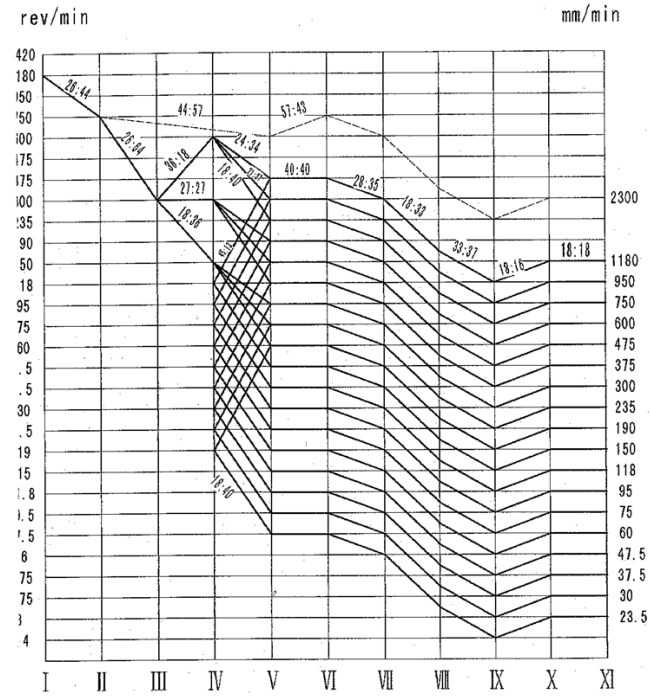

Fig 11
Press the RAPID SPEED pushbutton when table moves. Table can get the rapid speed 2300 mm/min in longitudinal and cross directions, vertical speed is 770 mm/min when electromagnetic clutch on the right of shaft VI meshing, at the same time motor drives directly shaft through gears (8), (19), (20), (21) to make table rapid move. The every speed in the Fig.11 is controlled by the speed change tray.